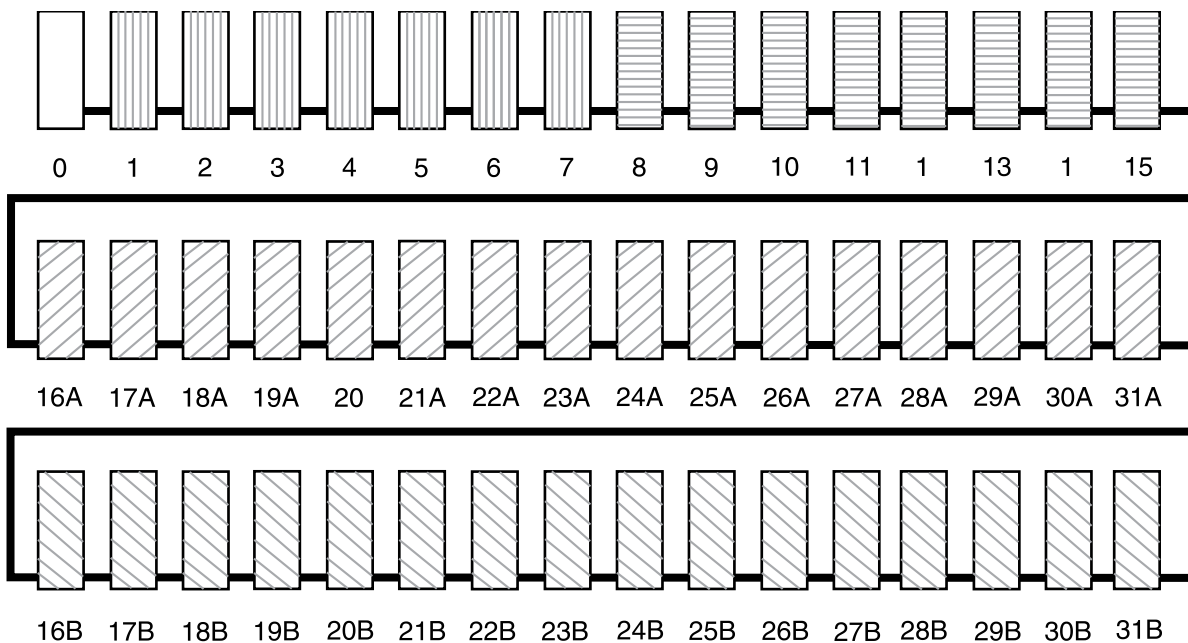

Figure 1
- Version 2.0 single slaves address range 1-31 (shown in Figure 1 as addresses 1-7)
- Version 2.1/3.0 single slaves address range 1-31 (shown in Figure 1 as addresses 8-15)
- Version 2.1/3.0 A slaves address range 1A-31A (shown in Figure 1 as addresses 16A-31A)
- Version 2.1/3.0 B slaves address range 1B-31B (shown in Figure 1 as addresses 16B-31B)
Figure 1 (page 7) shows the natural scan sequence and mapping of single and A/B slaves. A v2.1/3.0 master will scan all addresses in two cycles, first the A addresses, then the B addresses. Since a v2.0 legacy slave technically occupies both A and B addresses for its numeric address, it will be scanned on both cycles and its scan rate will be twice as fast.
It is not necessary to have the single, or “whole”, addresses at the beginning as shown in Figure 1 (page 7). The addresses of v2.0 nodes can all be at the end or randomly anywhere from 1-31. The beauty of this is that an existing legacy v2.0 system that has unused addresses can be easily upgraded and expanded to a v2.1 or v3.0 system without changing the mapping of the original v2.0 nodes.